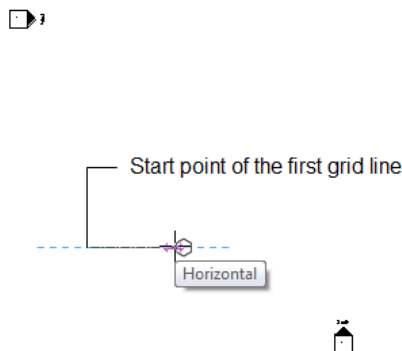

Figure 3-56 The location for the start point of the first horizontal grid line
3. Ensure that the **Line** tool is invoked from the list box in the **Draw** panel of this tab. Then, move the cursor toward the lower left corner of the drawing area (near the **South** elevation arrow) and click, as shown in Figure 3-56.